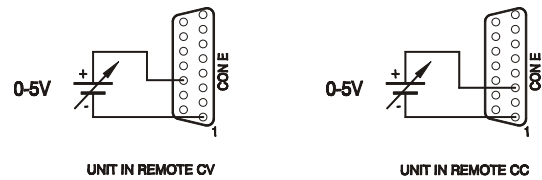

fig. 7 - 4
- See figure 7 - 7 for a connection diagram.